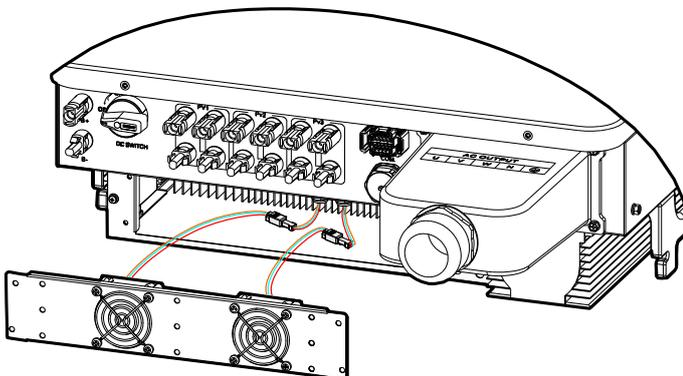

Figure6-2 Disconnect the connector
- Step 6 Disconnect the connector connected with fan, as shown in Figure6-2.